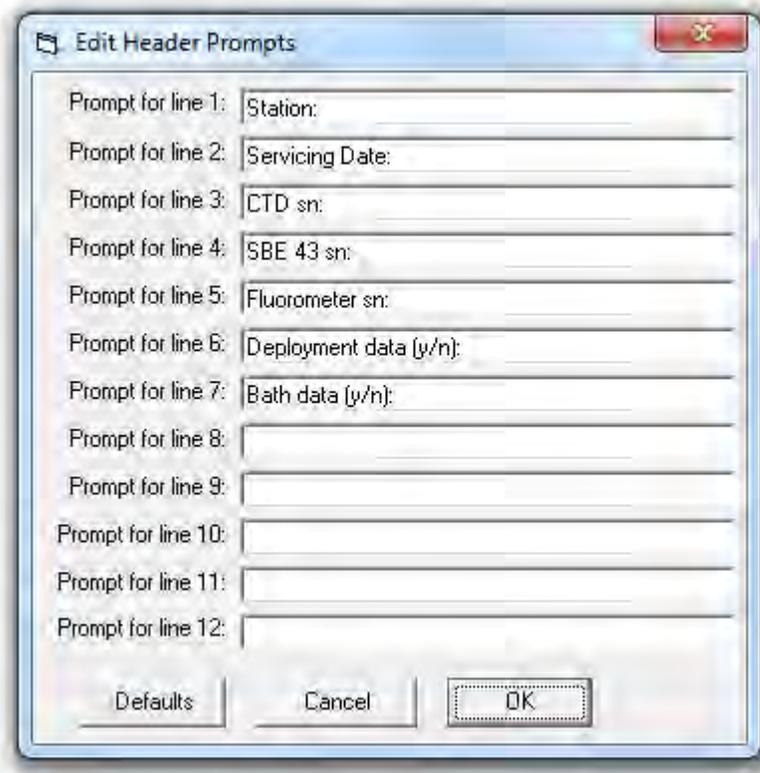

Figure 20. Image of Edit Header Prompts dialog box.
9. Confirm that the **Edit Header Prompts** dialog box has these entries in the **Prompt for** lines (Figure 20):